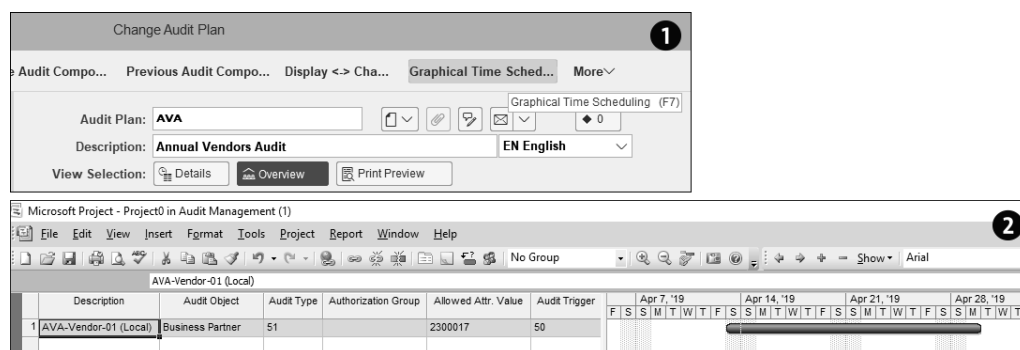

Figure 14.21 Audit Plan in MS Project
In the screen in Figure 14.21 ❶, choose an **Audit Plan** and then click **Graphical Time Scheduling**. This triggers the system to open MS Project and then display the scheduling details of the audit plan in MS Project ❷. You can make changes to your audit plan in MS Project, and on saving, the system automatically updates all scheduling information in audit management.